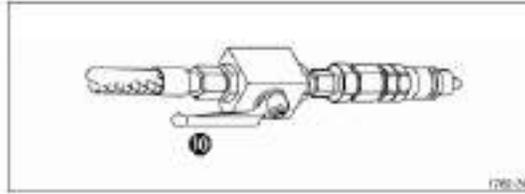

Figure 61. Shutoff valve
- [10] Open shutoff valve(see Figure 61 on page 9-3) at the hydraulic quick coupler with red marking.